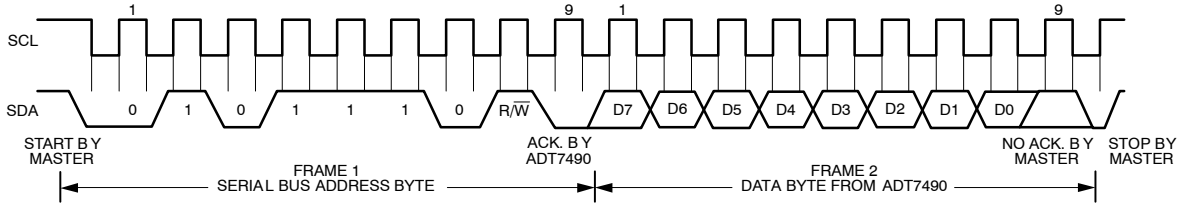

Figure 6. Reading Data from a Previously Selected Register
- If the address pointer register is known to be already at the desired address, data can be read from the corresponding data register without first writing to the address pointer register, as shown in Figure 6.